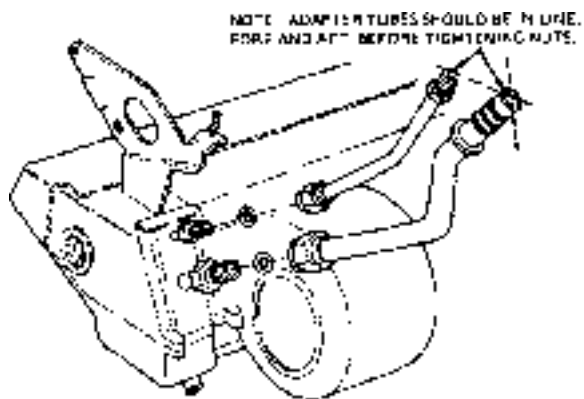

Figure 9B-185 Evaporator Inlet and Outlet Pipes and O-Rings
6. Install 2 attaching case mounting bracket to instrument panel screws. See Figure 9B-182.